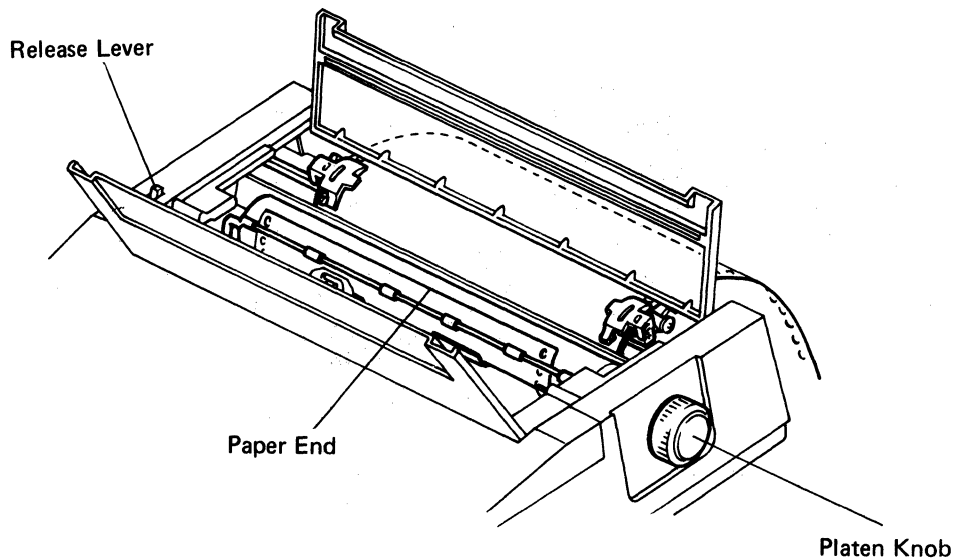

Fig. 9 Paper Insertion (4)
- (6) Now push down the paper retainer of the sprocket tractors. Turn the platen knob clockwise, bringing the paper to the front side of the platen. Return the roller shaft to hold the paper against the platen and the Release lever to the rear for pin feed operation. (See Fig. 9.)